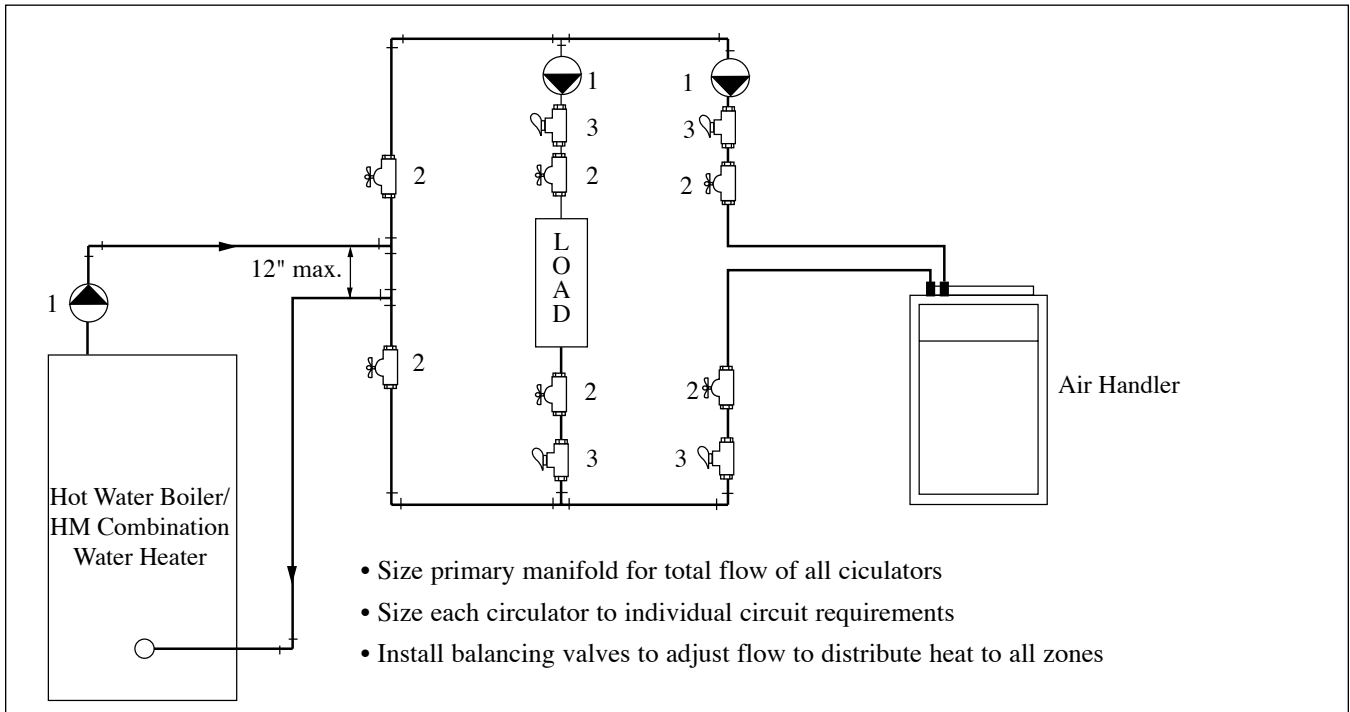

Fig. 1: Primary piping - Zoning with Circulators
- For recommended primary system piping arrangements see Fig. 1 and 2 page 4.